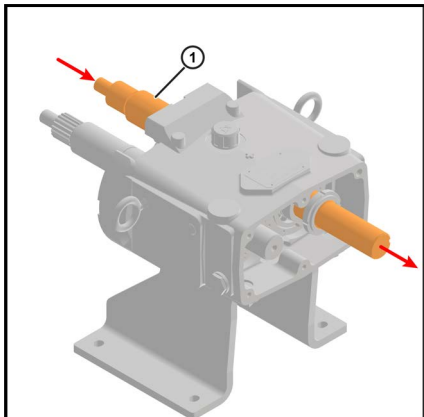

Figure 266 - Tap drive shaft out of gear case
5. Grasp the shaft (1) with one hand and tap it out of the gear case with a rubber mallet as shown in Figure 266.